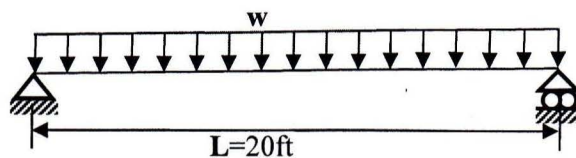

Figure:1
**Answer three (03) questions (1 and 2 compulsory)**
1. a) State the factors which are affecting strength of concrete. (03)
- b) State the number of sources of uncertainty in Analysis, Design and Construction (03)
- c) Differentiate between the WSD and USD method. (04)
- d) A 20 x 24 in. column is reinforced with six No. 11 bars. For this column section, calculate (14)
2. Analyze the beam using **WSD** method shown in Fig.1 to get uniformly distributed load which will produce crack at tension fiber. The beam has a width of 10 in. and height of 18 in. The tension reinforcement consists of three No.8 bars. (15)